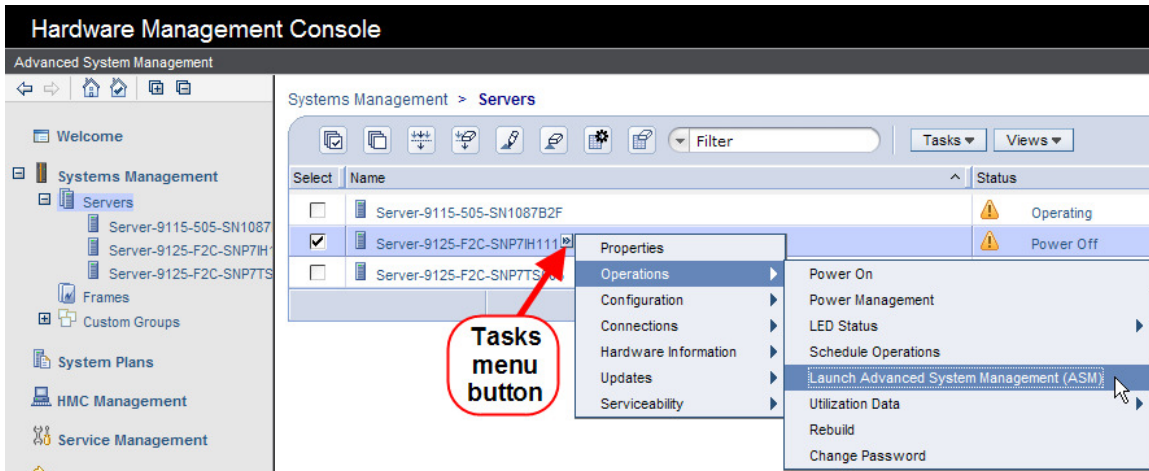

Figure 31 Launch ASM
STEP 44 From the Tasks menu select Operations -> Launch Advanced Systems Management (ASM), this is for the FSP ASM. See Figure 31.